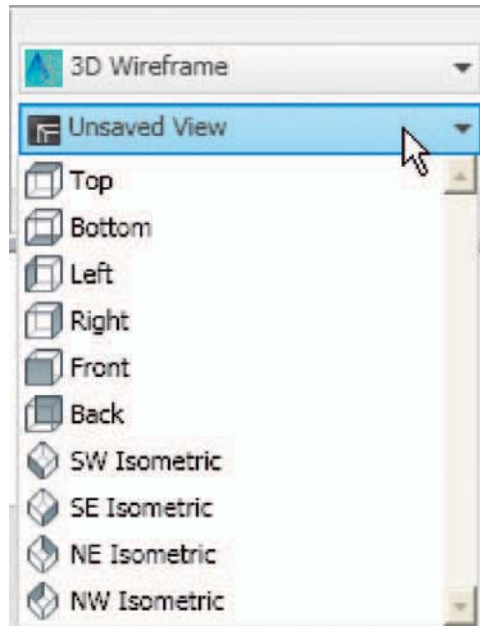

Fig. 14.34 Calling views from the Home/View panel
2. By selection from the **Unsaved View** pop-up menu in the **Home/View** panel (Fig. 14.34).